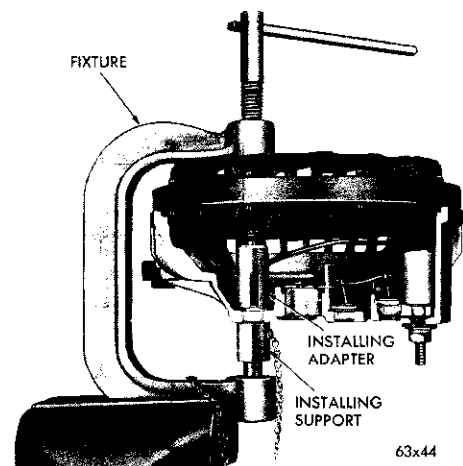

Fig. 35—Installing a Rectifier
(2) Start the rectifier squarely into the mounting hole.
(3) Support the heat sink or rectifier and shield on the installer adapter of Tool C-3928. With the installing adapter positioned on the rectifier, carefully apply pressure with the tool pressure screw until the installer tool, rectifier, rectifier end shield or heat sink are in alignment and after determining that the rectifier is started squarely in the casting, slowly apply pressure with the tool pressure screw until you feel the collar of the rectifier bottom against the casting (Fig. 35).